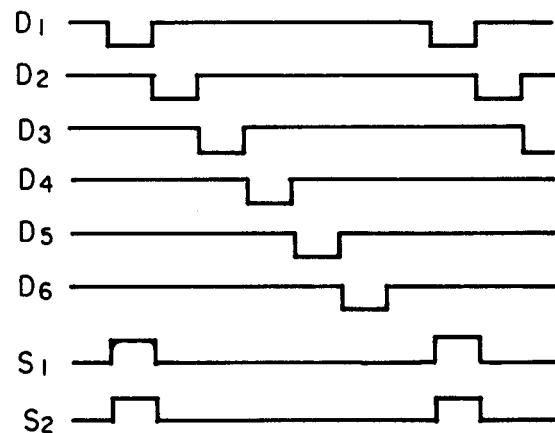

Fig. 12
More specifically in the above figure when digit output D_n (IC output) is "L," the Q23~Q27 Darlington pnp transistors turn ON and when the segment output S_n is "H," IR2403 and Q37 turn ON, segment 1 of the LED lights. For instance, when the first digit output goes to "L", and segments (2) and (3) go to "H", "2" is indicated and lighting is repeated as in Fig. 12 at a speed of 3 msec.